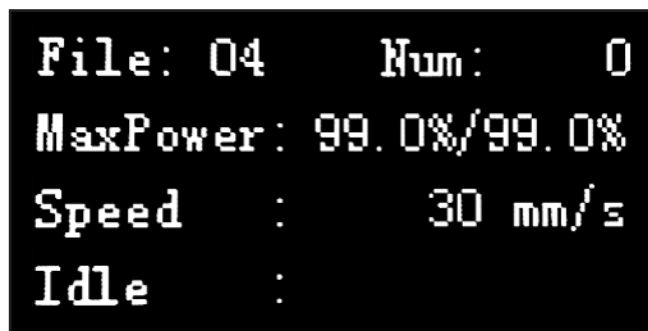

Figure 94. Example of status screen.
12. Press Esc to exit main menu and return to status screen (see **Figure 94**).